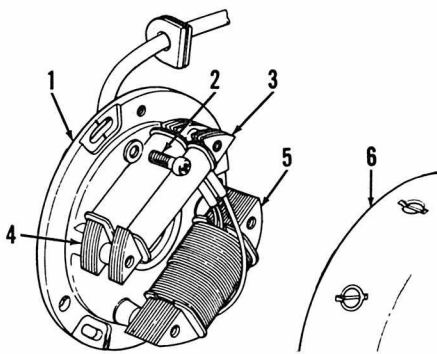
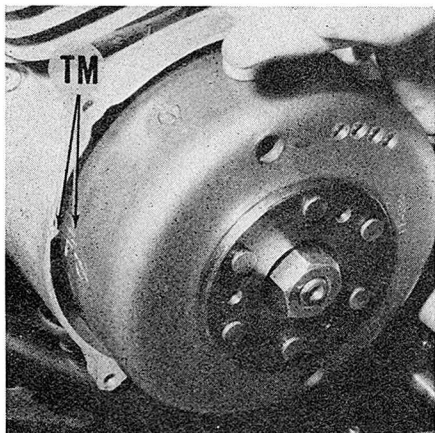

Fig. S14-4—Stator plate of TS 185 R with PEI. Align center of screw (2) with stamped mark on plate (1).
Fig. S14-3—Timing marks (TM) should align at 4000 RPM on PEI models.
**ADJUSTMENT AND INSPECTION OF PEI (POINTLESS ELECTRONIC IGNITION) MODEL TS 185 R.** The PEI system is a capacitor discharge type ignition system. After initial installation, further adjustment should not be necessary, however, timing may be checked with a power timing light. Timing marks (TM—Fig. S14-3) should align at 4000 RPM. If stator plate has been removed timing may be reset by installing base plate with stamped line on plate aligned with center of mount screw (2—Fig. S14-4). Recheck with a power timing light.
Some parts of the system may be inspected with an ohmmeter. Resistance of the exciter coil (4—Fig. S14-4) should be 220 ohms and is measured between the black/red wire and base plate (1). Standard resistance of trigger coil (3) is 75 ohms checked between the red/white wire and the base plate. Standard resistance of primary winding of ignition coil (measured between black/white and white/blue wires) is approximately 0.7 ohms. Resistance of secondary winding (spark plug lead to ground) is approximately 12,000 ohms.